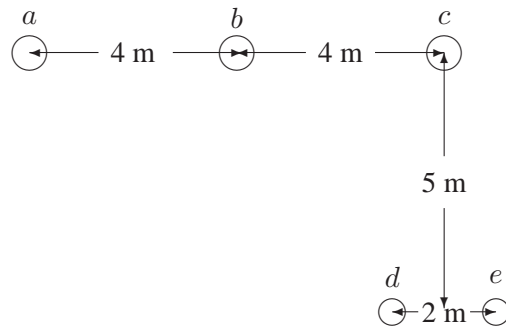

FIGURE 45
4.14. A three-phase, 60-Hz, untransposed transmission line runs in parallel with a telephone line for 20 km. The power line carries a balanced three-phase rms current of $I_a = 320\angle 0^\circ \text{ A}$, $I_b = 320\angle -120^\circ \text{ A}$, and $I_c = 320\angle -240^\circ \text{ A}$. The line configuration is as shown in Figure 45. Assume zero current flows in the ungrounded telephone wires. Find the magnitude of the voltage induced in the telephone line.